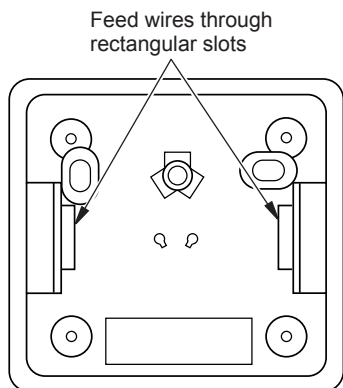

Figure 21 - Back View of Thermostat Base
6. Feed electrical wires through the rectangular slots (from the back) on each side of the base (see Figure 21).